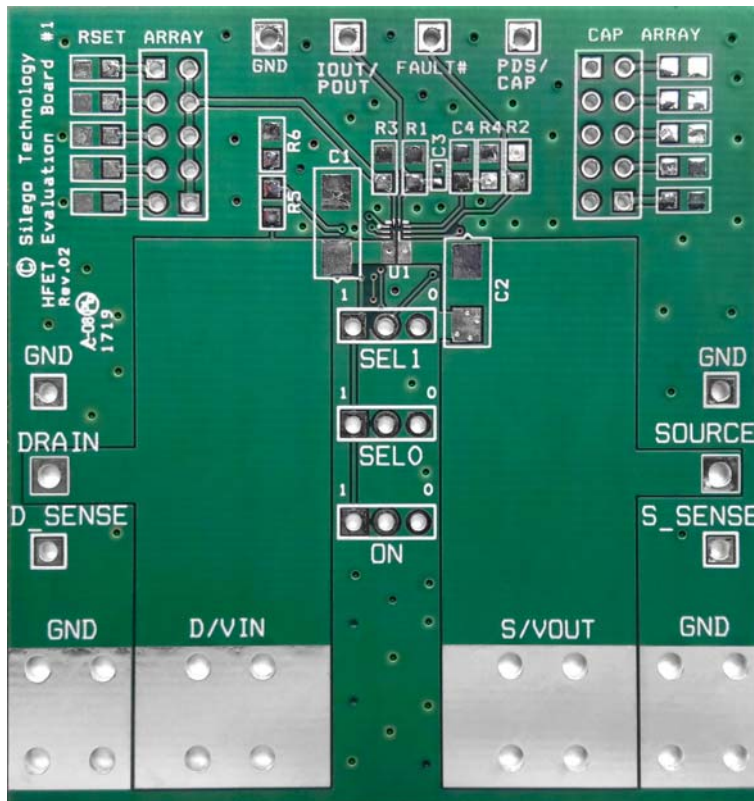

Figure 14. SLG59H1008V Evaluation Board
1. Since the VIN and VOUT pins dissipate most of the heat generated during high-load current operation, it is highly recommended to make power traces as short, direct, and wide as possible. A good practice is to make power traces with absolute minimum widths of 15 mils (0.381 mm) per Ampere. A representative layout, shown in Figure 14, illustrates proper techniques for heat to transfer as efficiently as possible out of the device;
A HFET1 Evaluation Board for SLG59H1008V is designed according to the statements above and is illustrated on Figure 14. Please note that evaluation board has D_Sense and S_Sense pads. They cannot carry high currents and dedicated only for RDS_{ON} evaluation.